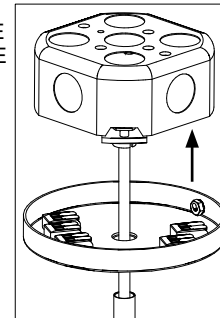

Figure 3: Base Mounting [2/2]
6. Reattached canopy cover by turning lock screw clockwise while pressing canopy cover firmly to base. [Figure 3 & 4]